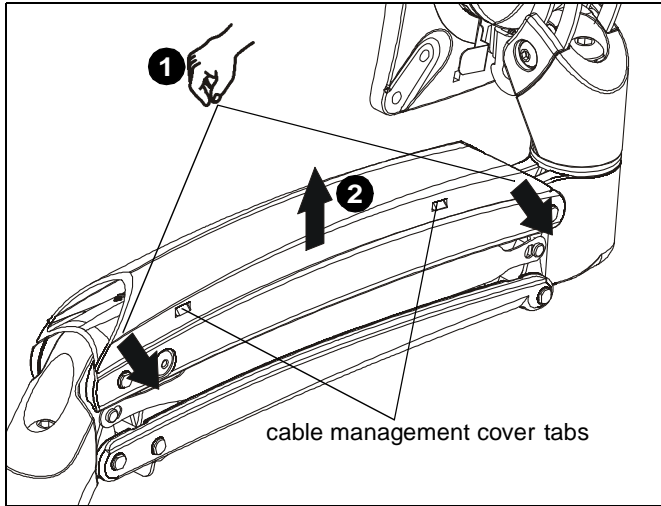

Figure 26
1. Press insides of cable management covers at both ends to unhinge tabs on either end of cable management cover on upper arm. (See Figure 26)
2. Lift cable management cover up until tabs are unhinged and cover is in the "open" position. (See Figure 26)